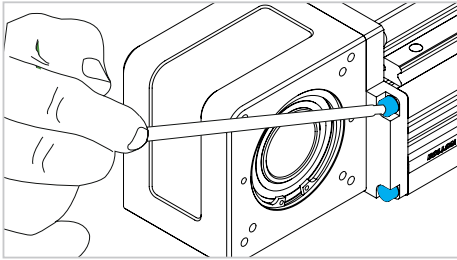

Fig. 7
- 4) Unscrew the four screws on the flange (Fig. 7) and remove the head